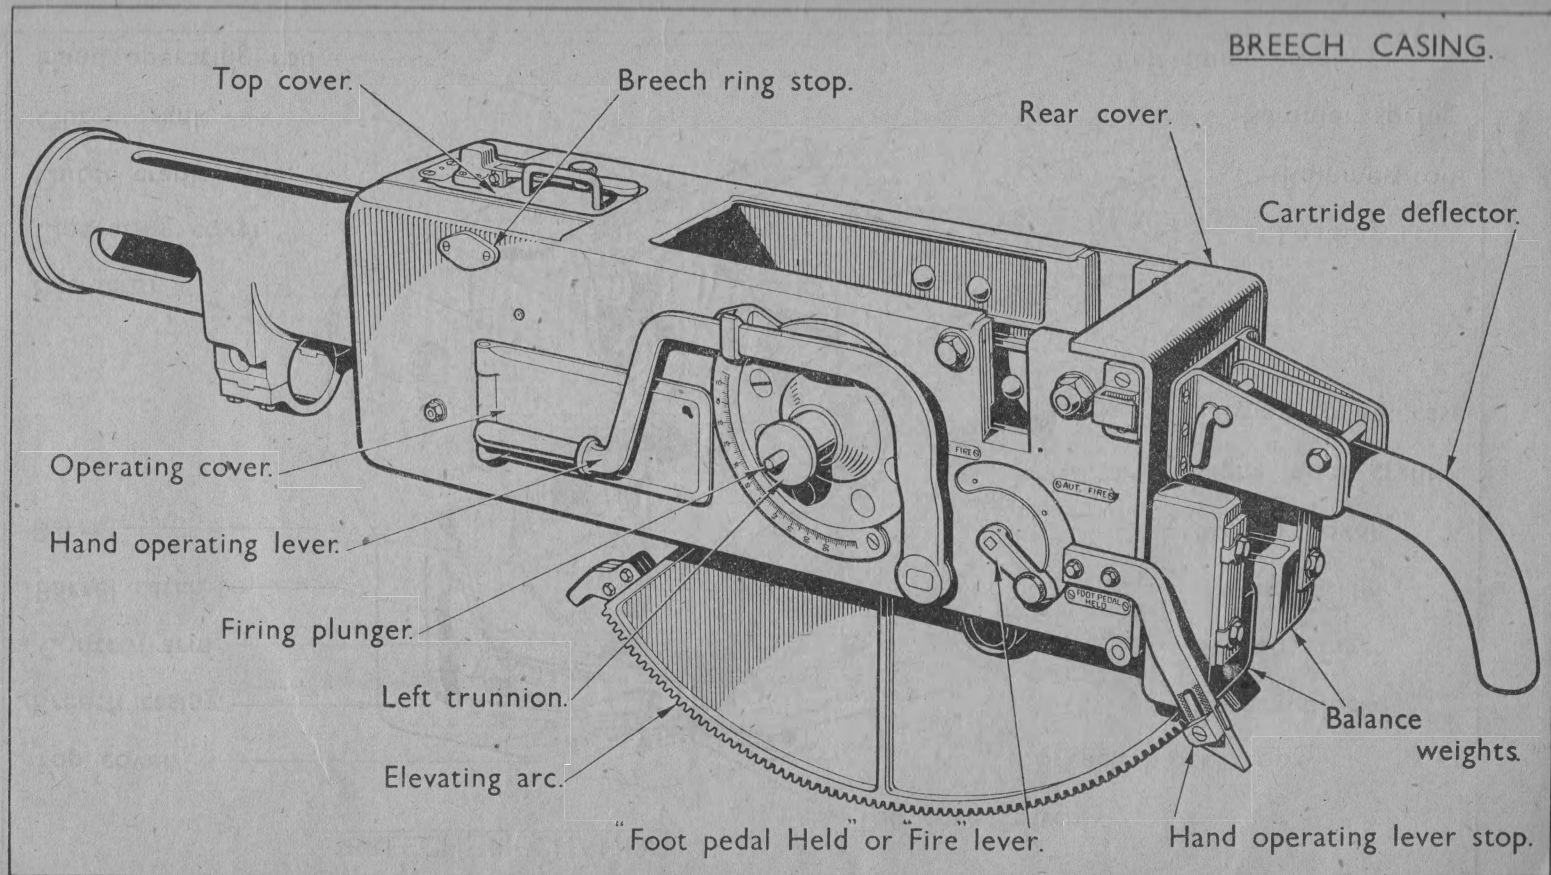

FIG. 2.
4. The **breech casing** (Fig. 2), comprises a frame to which non-recoiling parts are attached or accommodated in. It has a cylindrical front and a box-shaped rear. The cylindrical part surrounds the recuperator spring and supports the barrel and has a shoulder formed internally to form a seating for the recuperator spring washer when the barrel is assembled in the breech ring. The box-shaped portion encloses the breech ring, breech mechanism, loading mechanism, etc., various apertures, closed by covers, permit access to the mechanism.